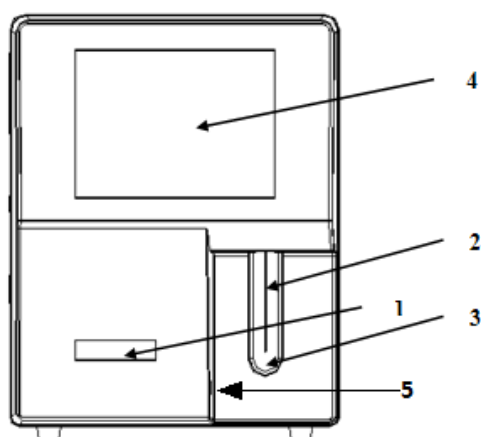

Figure 3-1 Front view of the analyzer
- 3) The aspirate key of the analyzer (see Figure 3-1 Front view of the analyzer) shall be wiped with alcohol (75%) regularly.